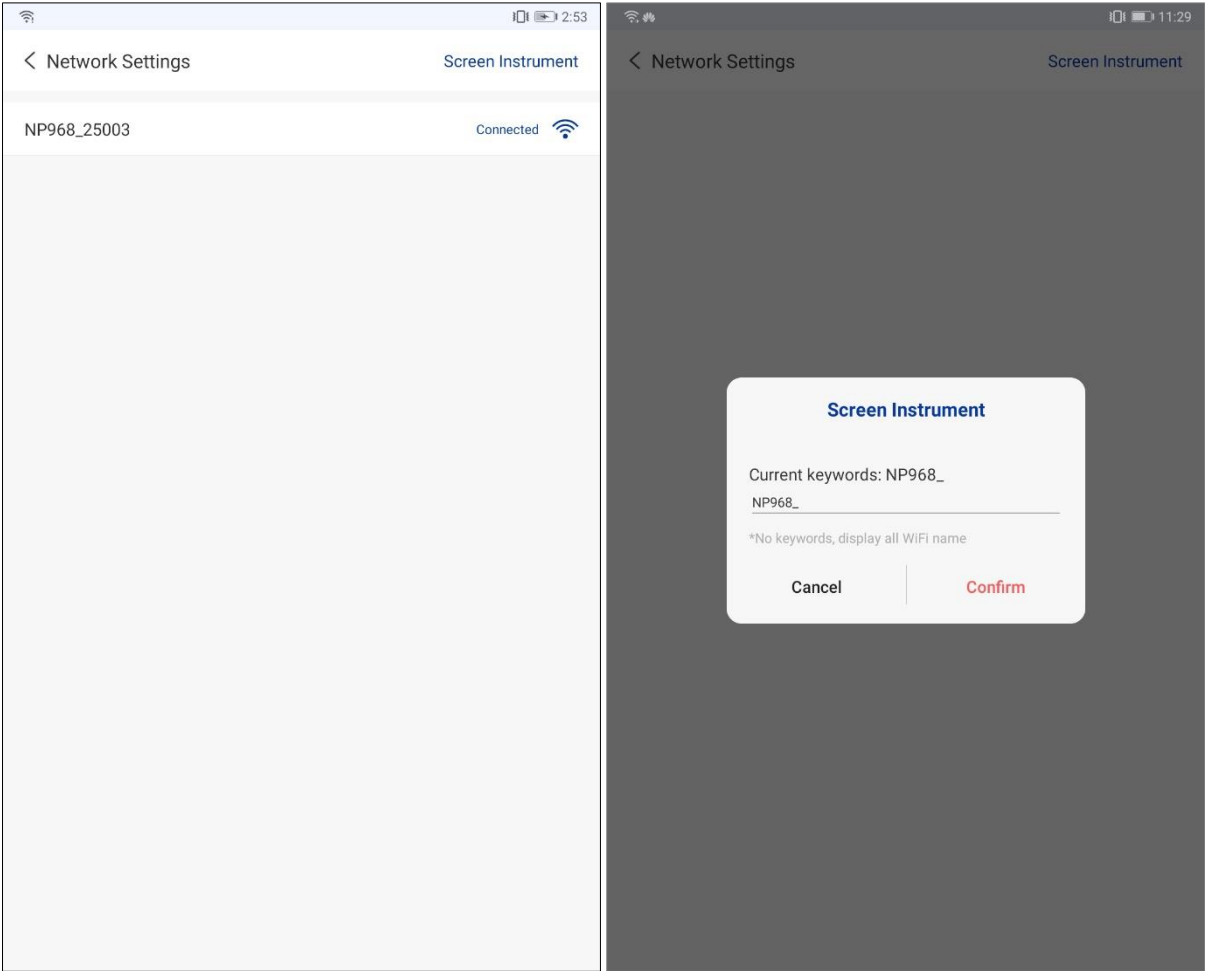

Figure 5-14. Setting Interface – Network Settings
2. **Network Settings:** intended to screen available NP968 Automated Nucleic Acid Extractors in LAN. User can click < **Screen Instrument** > and input the keyword for screening, then connect the corresponding instrument, as shown in figure 5-14.